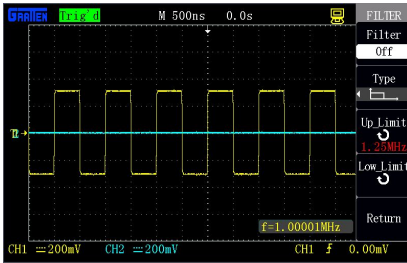

Figure 2-16 Digital filter OFF
- Press [CH1]→“Next”→“Digital filter”→“OFF”, and close the digital filter function, as shown in figure 2-16.